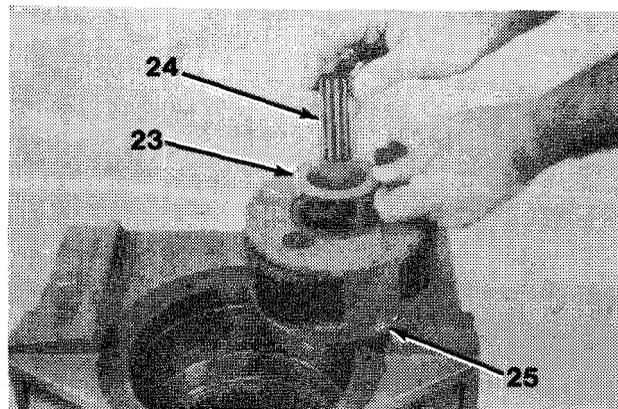

Figure 16-19
10. Install sun output gear (24) and thrust washer (23) into output planet carrier (25, Figure 16-19).